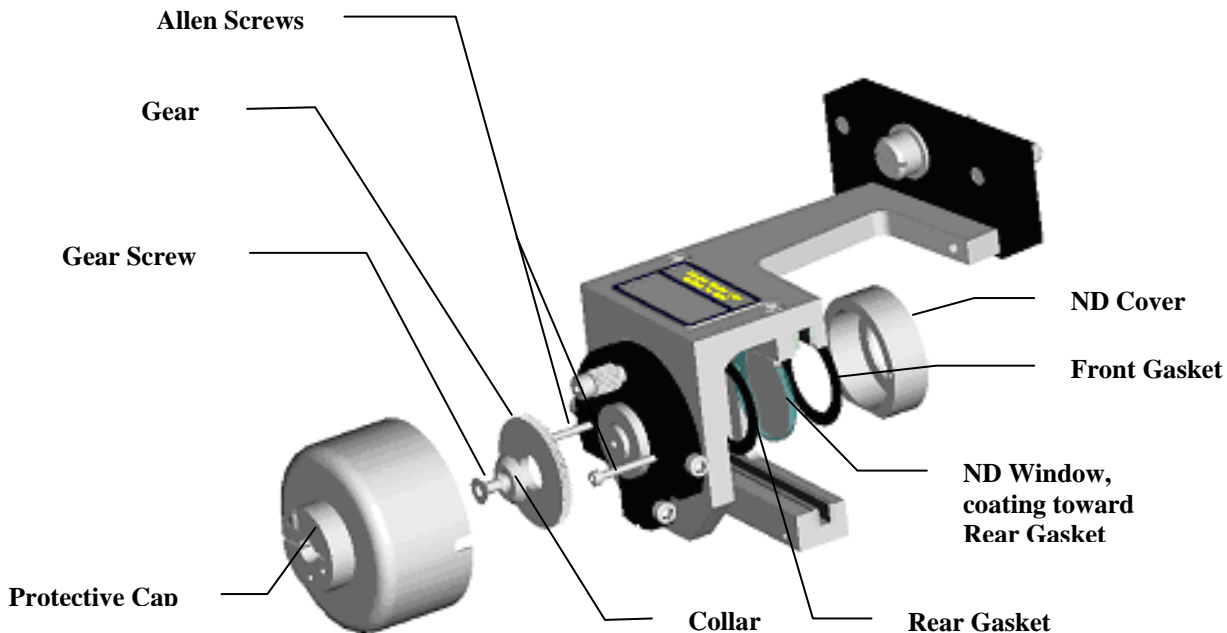

Figure 9-8
1. Loosen the cap screws and remove the cover that protects the Iris Adjustment Mechanism. See Figure 9-8.
2. Remove the gear screw, collar and gear. See Figure 9-8.
3. Remove the 2 Allen head screws holding the ND Cover. See Figure 9-8.
4. Remove the ND cover, front gasket, ND window and rear gasket. See Figure 9-8. (See note below for .2ND windows)
5. Re-assemble the rear gasket, new ND window, front gasket and ND cover as shown in Figure 9-8. **Note: The ND window must be installed with the coating side IN toward the rear gasket.**
6. Re-install the gear, collar and gear screw. See Figure 9-8.